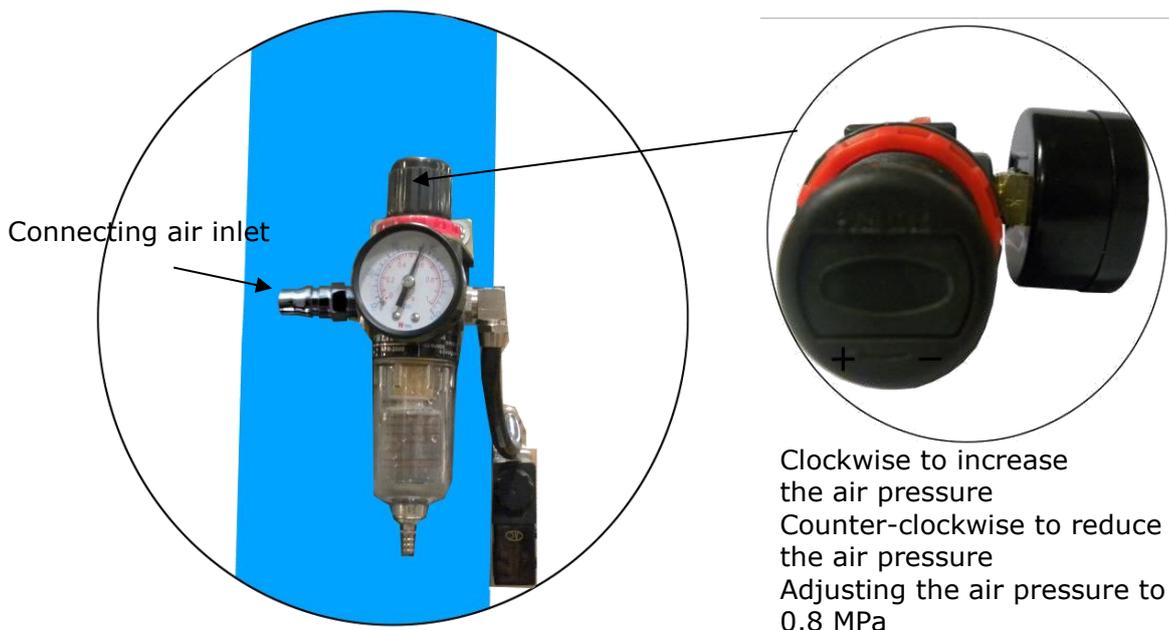

Fig. 42
5. Connecting air inlet (Air supply pressure 5-8kg/cm²), adjusting the air pressure of Oil-water separator to 0.8 MPa (See Fig. 42).